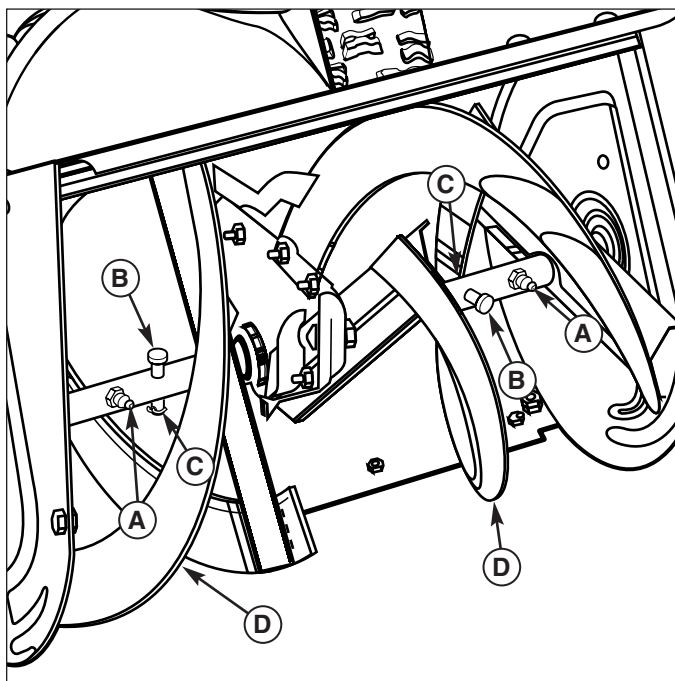

Figure 17. Lubricating the Auger Shaft Assembly
1. Remove cotter pin (C, Figure 17) and shear pin (B).
2. Use a grease gun and squirt several shots of grease into grease fitting (A).
3. Rotate auger assembly (D) several times to distribute the grease evenly. Repeat step 2.
4. Reinstall shear pin (B) and cotter pin (C).